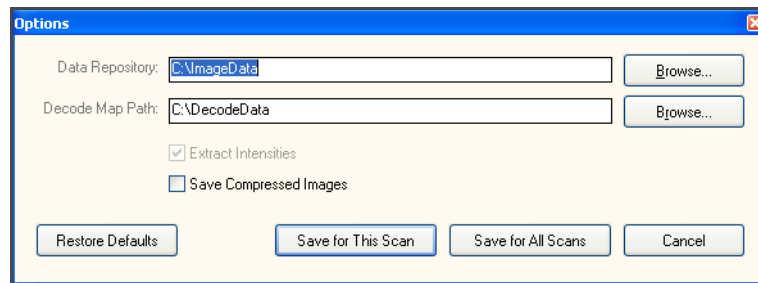

Figure 48 Enter Data Repository and Decode Data Paths
- a. Click **Edit** to open the Options dialog box (Figure 48).